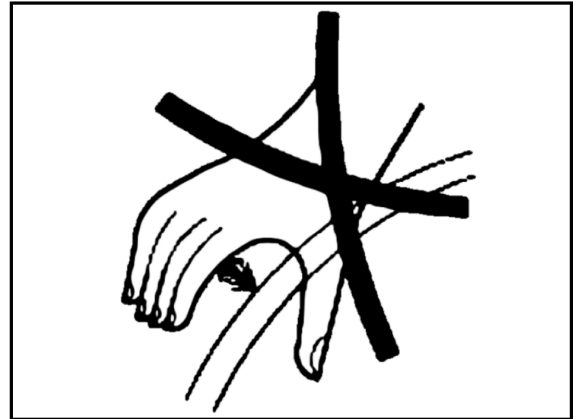

Fig 2.18
**WARNING:** Diesel fuel or hydraulic fluid under pressure can penetrate the skin or eyes and cause serious personal injury, blindness or death. Fluid leaks, under pressure, may not be visible. Use a piece of cardboard or wood to find leaks. Never use your bare hand. Wear safety goggles for eye protection. If any fluid is injected into the skin, it MUST be surgically removed within a few hours by a doctor familiar with this type of injury, fig. 2.18